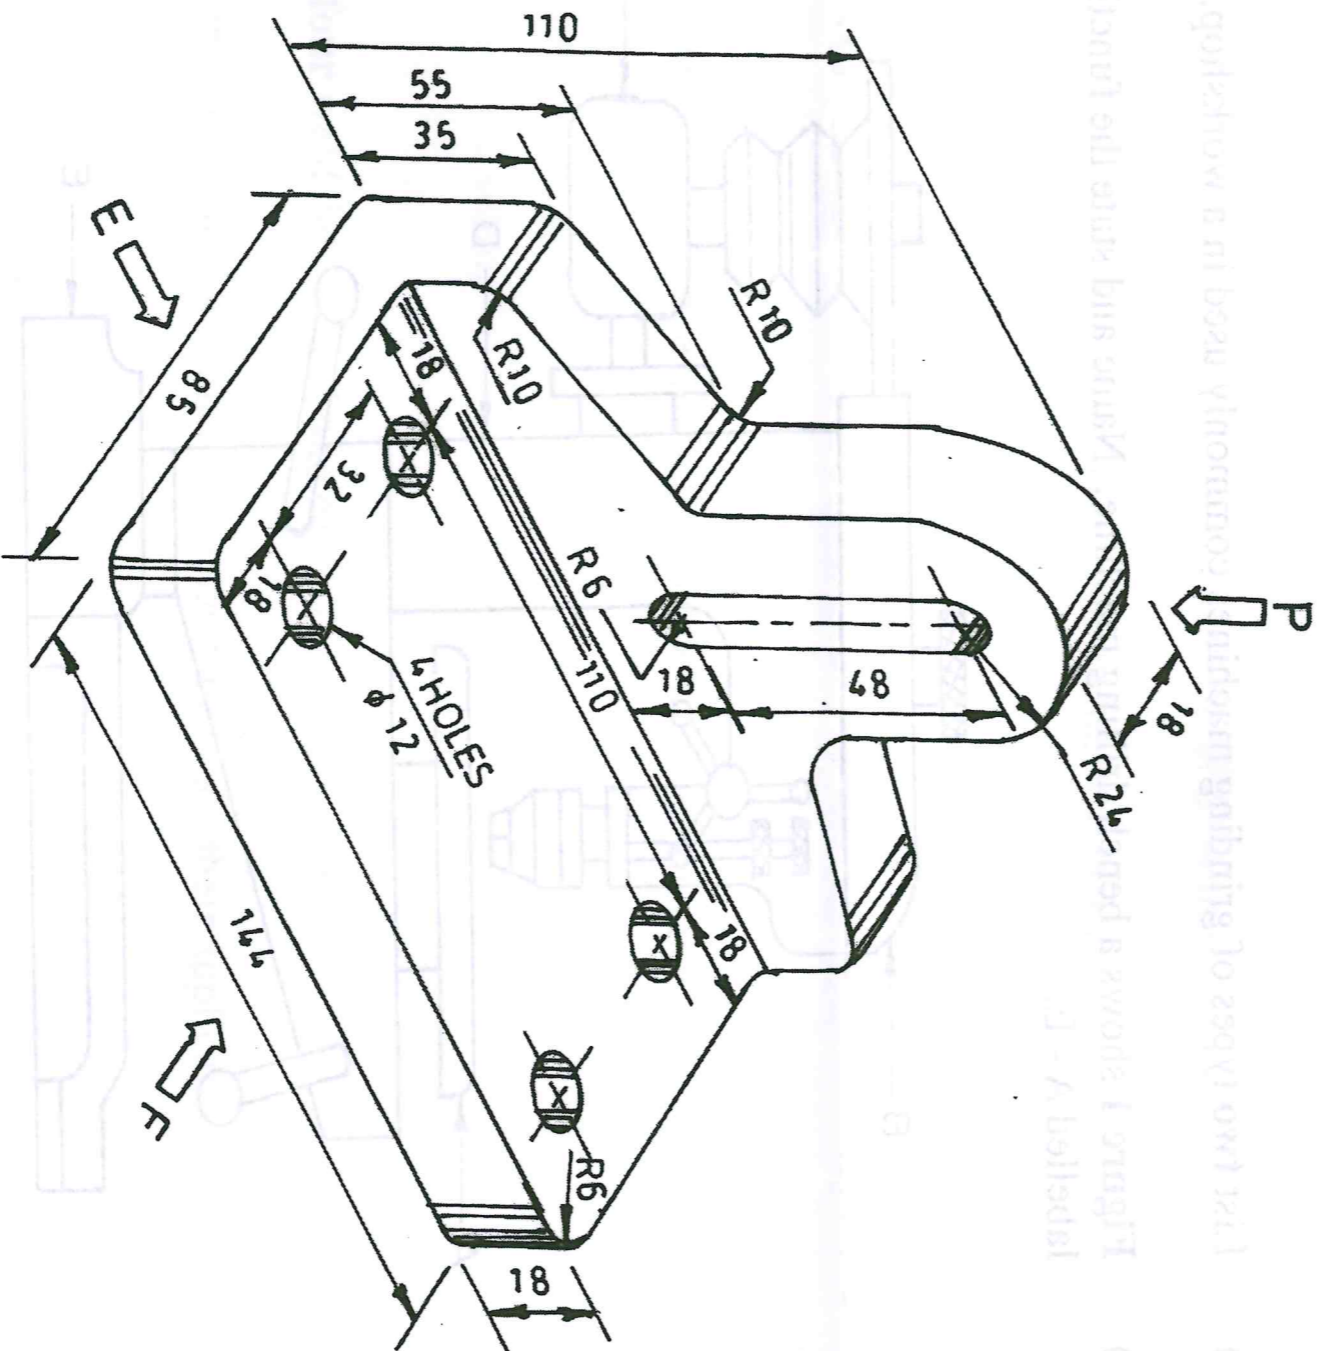

Fig. 2
5. **Figure 2** shows a machined block. Draw in third angle projection, showing hidden details, the following views: